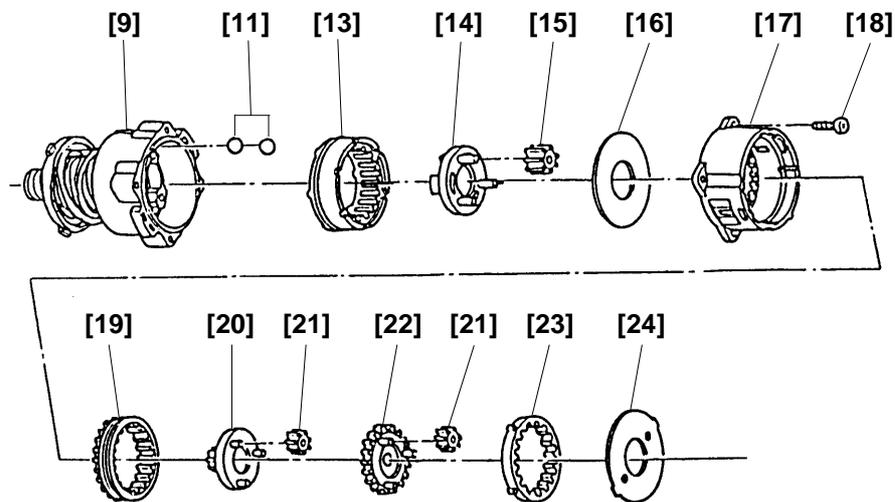

Fig. 12
(b) Install the parts series from Steel Ball [11] to Washer (B) [24] to the assembly from step (3). (See Fig. 12)